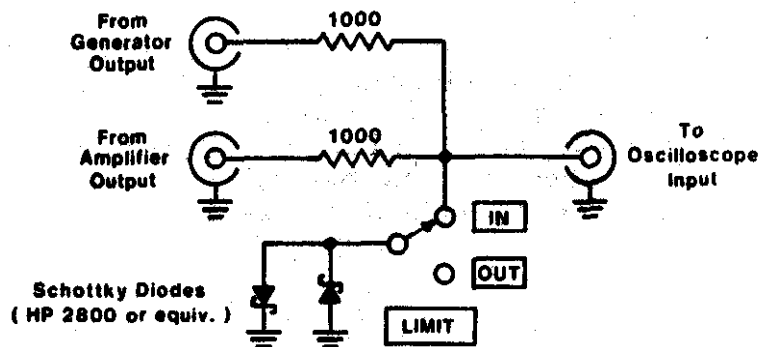

Fig. 4.3 Resistor Bridge/Diode Limiter
NOTE: Oscilloscopes **such as** the TEKTRONIX **Model 465 and 475** will **overload** with a 10 volt input signal when the vertical sensitivity is **set for** 100 mV/Div or less. The **Resistor Bridge/Diode Limiter** shown in **Fig. 4.3** is recommended to prevent overloading the, **oscilloscope (this** bridge/limiter is also used for amplifier **linearity measurement**). The **FROM GENERATOR OUTPUT** connector is **not used** when connected as an oscilloscope overload limiter.
4. Resistor Bridge/Diode Limiter (See Fig. 4.3).